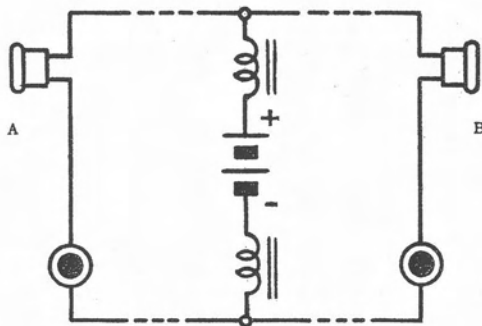

Figure 49. Stone's "inductor" common-battery system.
Fig. 49 shows the schematic wiring diagram of the Stone common-battery system. Current is furnished by a battery through two inductive coils called impedance coils, which are usually wound on the same iron core. The electric current divides, part going to one telephone (A) and the rest to the other (B) over a metallic circuit. Telephones A and B are of similar construction. When no one is talking the current flow is steady. If a person speaks into the transmitter it acts like a variable resistance and makes the current stronger and weaker. It is like a valve in a water pipe, but it is never wide open or tight shut. The undulating current (voice current) caused by the transmitter travels throughout the circuit composed of the two transmitters and the two receivers. Very little will pass through the impedance coils because they are inductive. The sound of the speaker's voice can be heard in both receivers. The impedance coil method